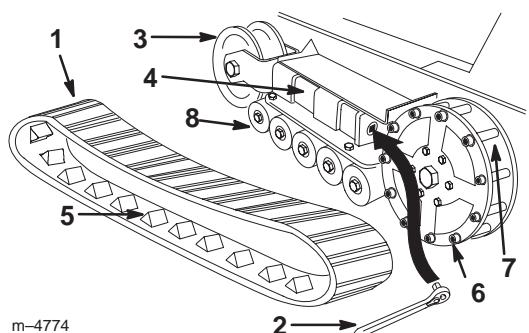

Figure 2
3. Using a 1/2 inch drive socket, release the drive tension by turning the tensioning screw clockwise (Fig. 2).
4. Push the tension wheel toward the rear of the unit to move the fork tube against the frame (Fig. 2). (If it does not touch the frame, continue turning the tensioning screw until it does.)
6. When the track is off of the tension wheel, remove it from the drive wheel and road wheels (Fig. 2).